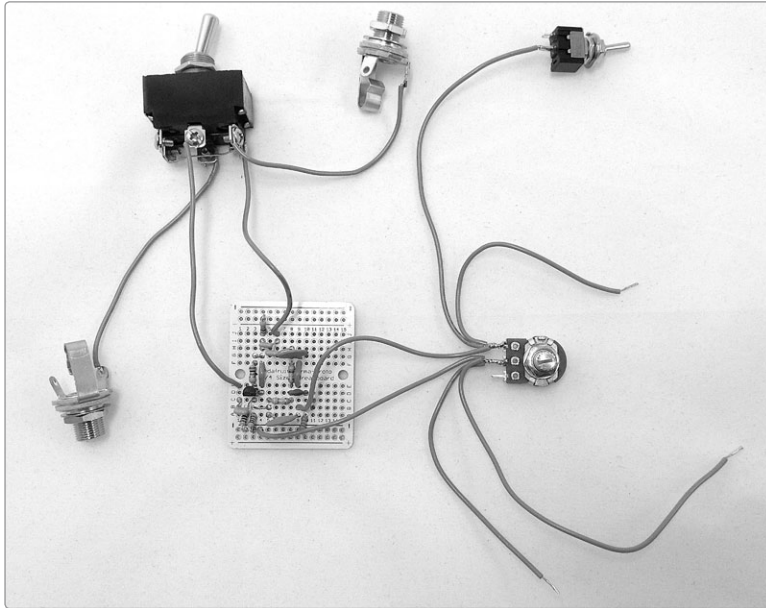

FIGURE 14-20: *The installed input, output, and bypass switch*
- Step 17** Solder the lead connected to lug 2 of the DPDT bypass switch to pad 1E on the PCB (that's the lead going from the switch to the left edge of the PCB in Figure 14-20). This is the circuit input. Solder the lead connected to lug 4 of the DPDT switch to 6J, which is near the top of the PCB. This is the circuit output.